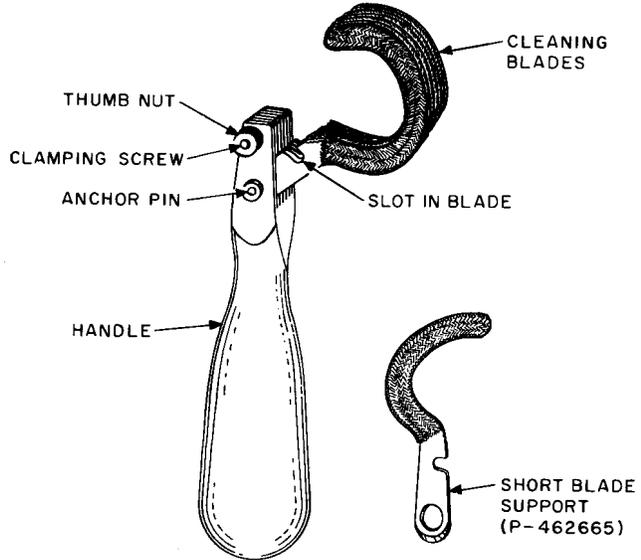

Fig. 11—Method of Removing Blades from Bank Cleaners
Note 2: Use P-462665 short blade support shown in Fig. 11.
(1) Loosen the thumb nut. Remove the blade support by forcing it backward so the slot in the support is free of the thumb nut. Then force the blades backward until the upper slot is free from the screw in the handle as shown in Fig. 11, and remove the blades from the handle.
(2) Remove the sleeving from each pair of blades by grasping the sleeving at the inner end and working it toward the tip of the blade. At the same time, lift it alternately toward the inner and outer edges of the blade to disengage the sleeving from the notches on the blade.
(3) Resleeve the blades in pairs as shown in Fig. 11. Use 36A sleeving for sleeving the 402E cleaner and 36B sleeving for sleeving the 517A or 517B cleaner. Both the 36A and 36B sleeveings are cut to the correct length for these cleaners.